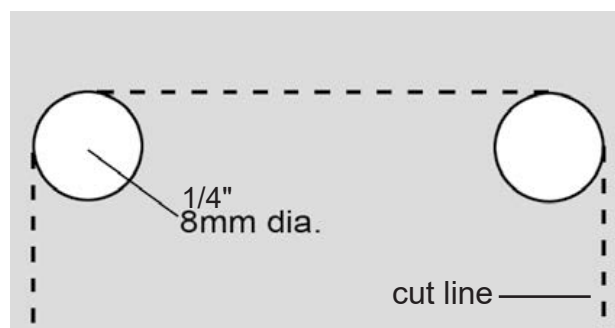

Figure 9B
- Shaped cutouts can be formed by drilling 1/4" (8mm) diameter holes in the corners of the required shape, and then cutting between using a jigsaw with an acrylic, fine tooth downcut blade. (FIG. 9B)